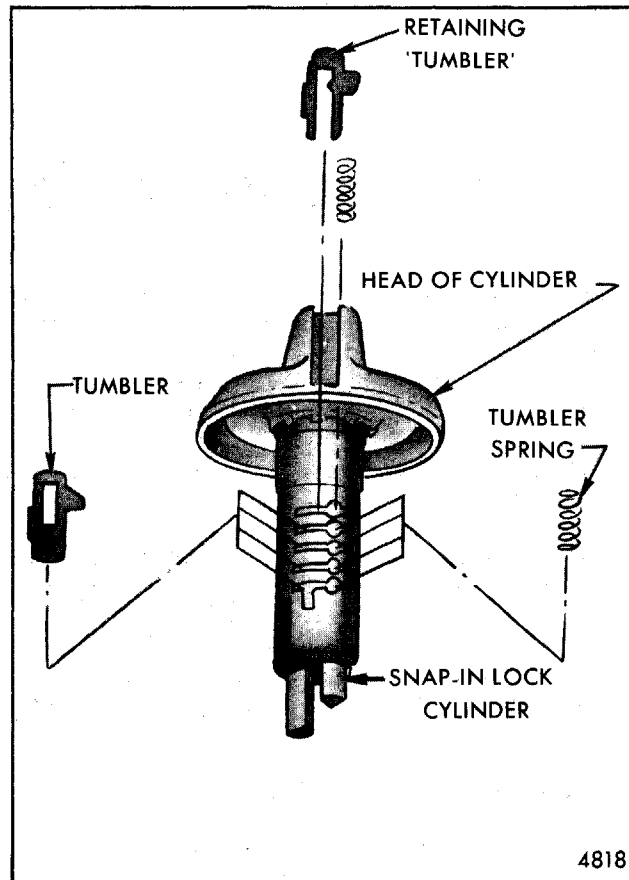

Fig. 1-7-Installing Tumblers
2. Starting at open end (head) of cylinder, insert tumbler spring and retainer "tumbler" in first position, then proceed to insert tumbler springs and tumblers in their proper slots in the order previously determined by code, as shown in Figure 1-7.